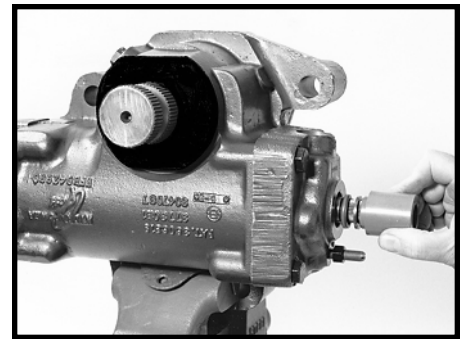

Figure 156
- 48. Apply clean grease to the input shaft seal assembly (7 and 8) and to the input shaft. Install the new two-piece input shaft seal (7 and 8), flat side out, and then the steel backup washer (6), using seal driving tool J26653. Install the retaining ring (5) SEE FIGURES 156, 157.